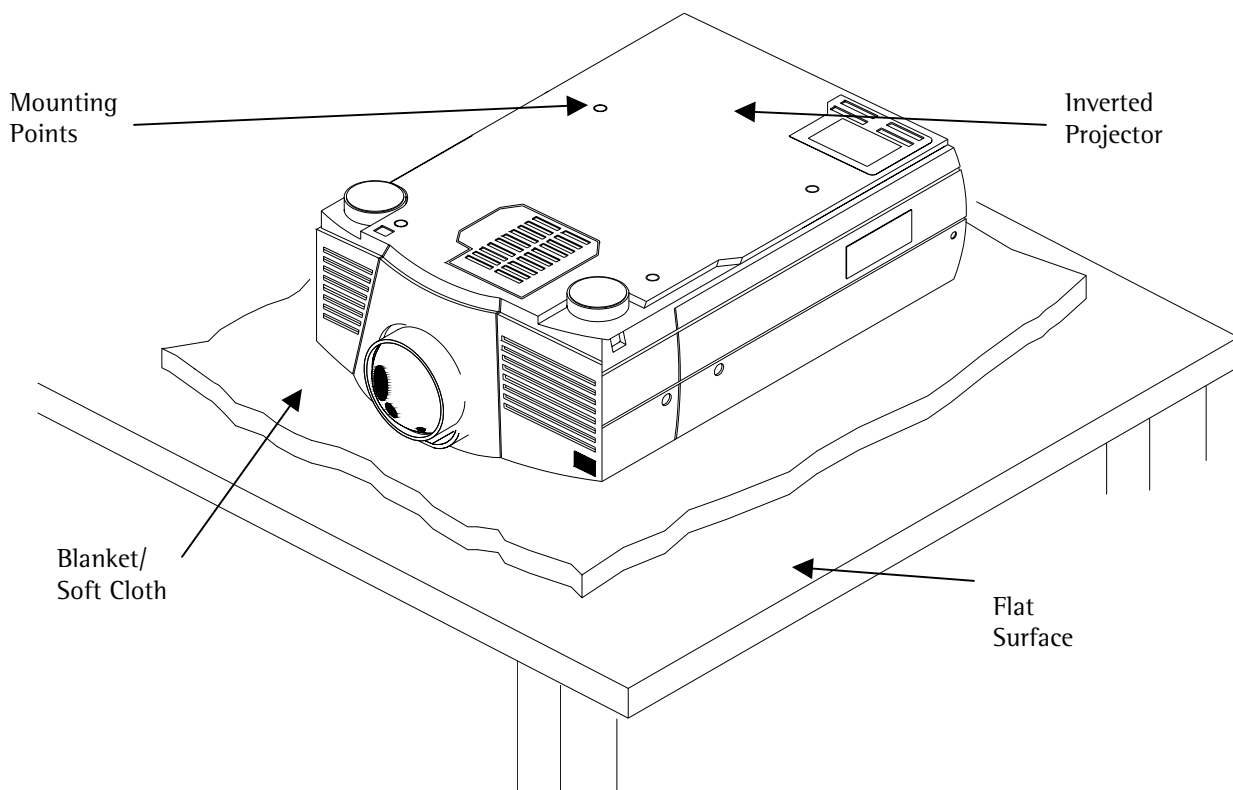

Figure 1. Projector Preparation
2. Most projectors have either three or four mounting points and are M4, M5, or M6 in thread size (Figure 1).